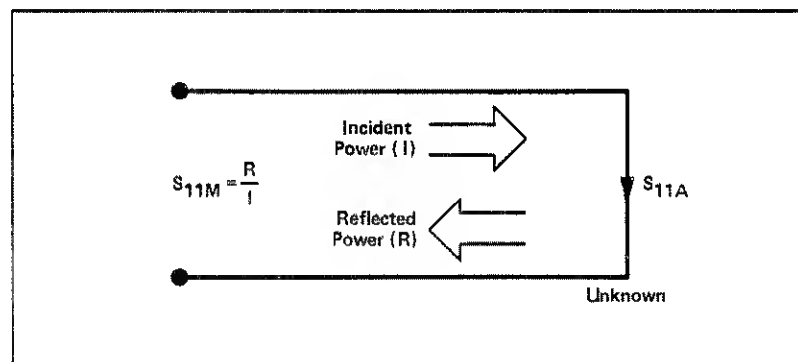

Figure 5-33
The reflection coefficient is measured by first separating the incident signal (I) from the reflected signal (R), then taking the ratio of the two values (Figure 5-33). Ideally, (R) consists only of the signal reflected by the test device ( $S_{11A}$ ).